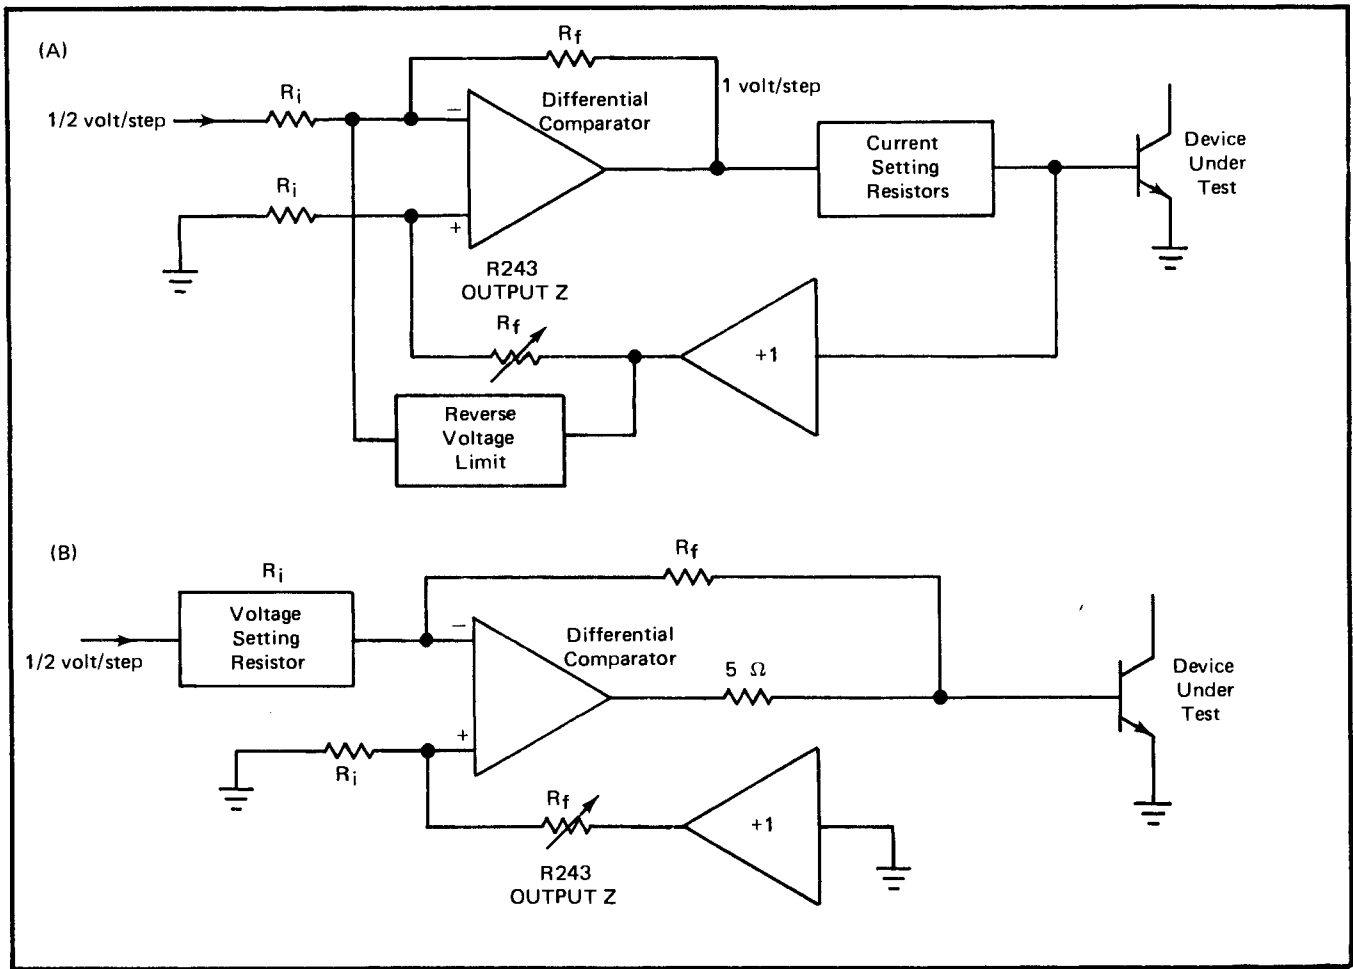
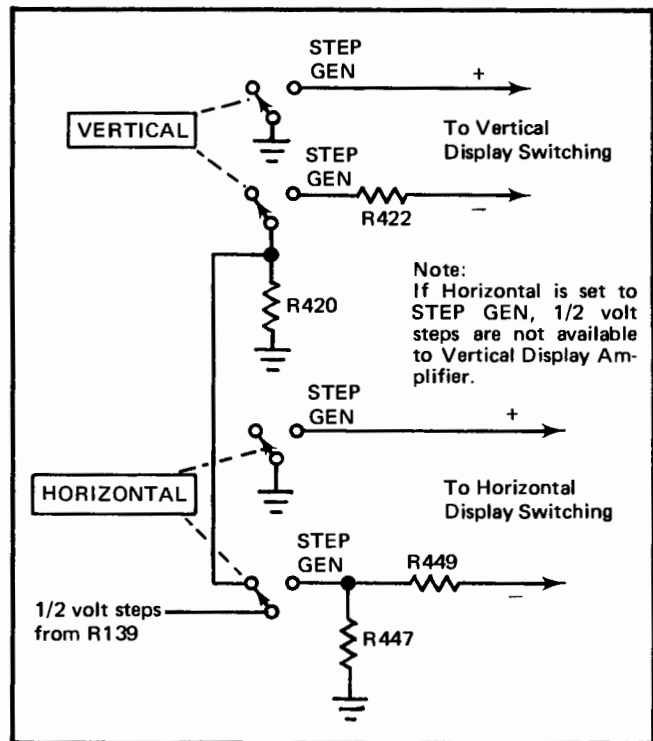

Fig. 3-7. Block diagram of Step Output Amplifier: (A) Current Mode; (B) Voltage Mode.
Fig. 3-11. Simplified schematic of Display Sensitivity Switching when VERTICAL and/or HORIZONTAL switches are set to STEP GEN.
**Display of Step Generator.** If either the VERTICAL or the HORIZONTAL switch is set to STEP GEN, the 1/2 volt steps at the input to the output amplifier section of the step amplifier (see Fig. 3-7) are applied to the inputs to the vertical display amplifier or the horizontal display amplifier (see Fig. 3-11). If both switches are set to STEP GEN, the 1/2 volt steps are applied to the Horizontal Display Amplifier only.